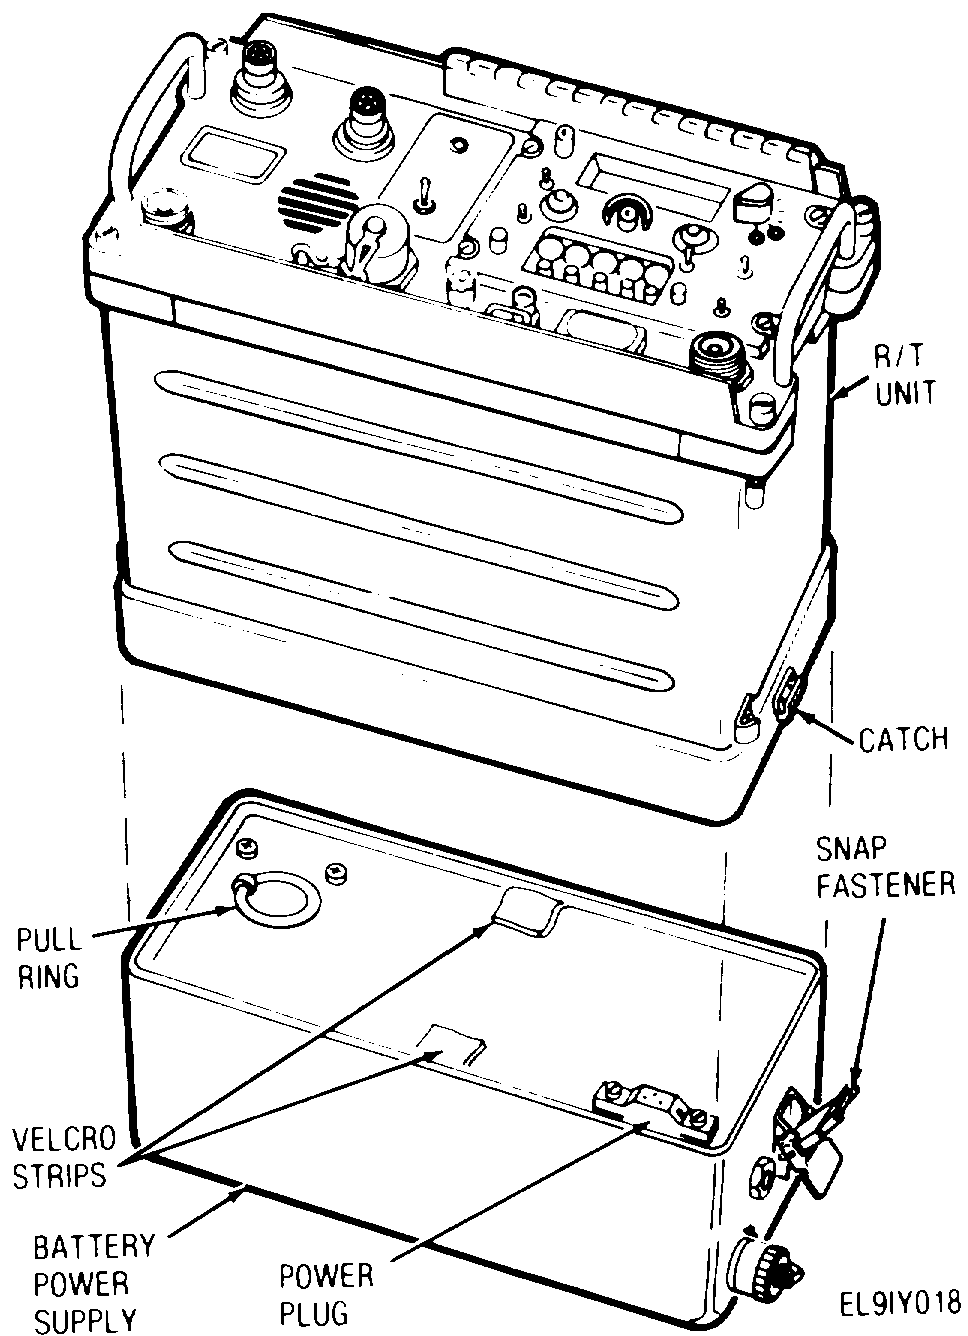

Figure 2-2. Battery Power Supply Installation
- c. Battery Pack Assembly.** To attach the battery pack power source to the radio, refer to Figure 2-2 and perform the following steps:
- (1) Ensure pull ring on battery supply is flat against top of supply.
- (2) Position the R/T unit over the battery power supply so that the R/T and power supply connectors are aligned.
- (3) Slowly lower R/T onto power supply.
- (4) Gently press downward on case to seat the connectors.
- (5) Press down on snap fastener levers until levers snap into place.